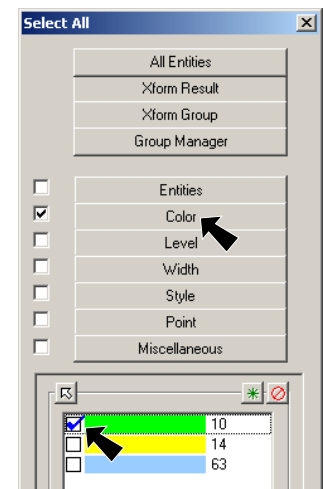

Fig. 30
- Step 3. Click **Color** button in the Select All dialog box, **Fig. 30**.
- Step 4. Click to place a **check** in **Green (94)** check box and click OK , **Fig. 30**.